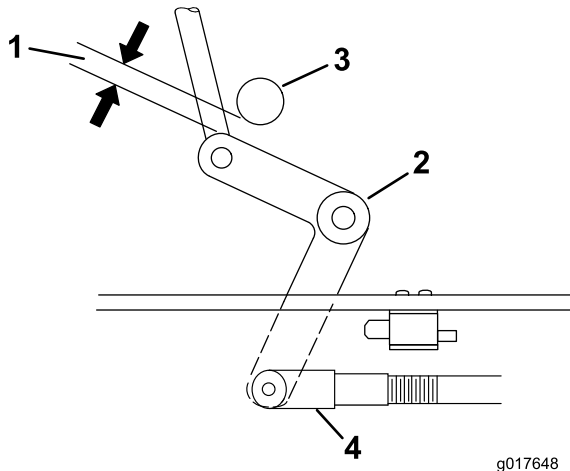

Figure 48
4. Adjust the linkage length to where the lower end of the bellcrank just clears the axle support gusset (Figure 48).
9. Loosen the nut against the yoke (Figure 48).